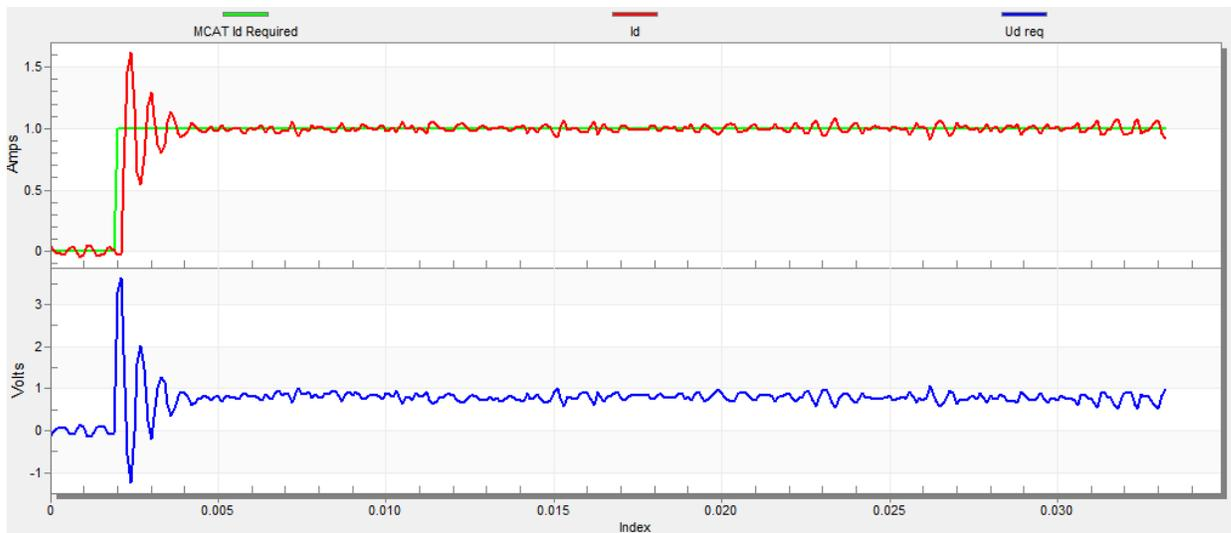

Figure 31. Fast step response of the Id current controller
- The loop bandwidth is high (700 Hz) and the response time of the Id current is very fast, but with oscillation and overshoot (see Figure 31).